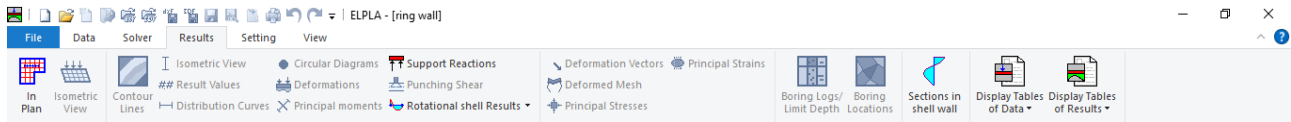

Figure 4.24 "Results" Tab
*ELPLA* can display and print a wide variety of results in graphics, diagrams or tables through the "Results" Tab. To view the data and results of a problem that has already been defined and analyzed graphically, switch to "Results" Tab (Figure 4.24).